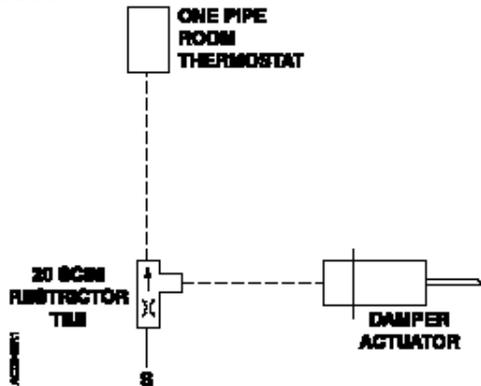

Figure 3. One-pipe Thermostat Application.
- for one-pipe room thermostats, 20 scim (5.5 ml/sec). See Figure 3.